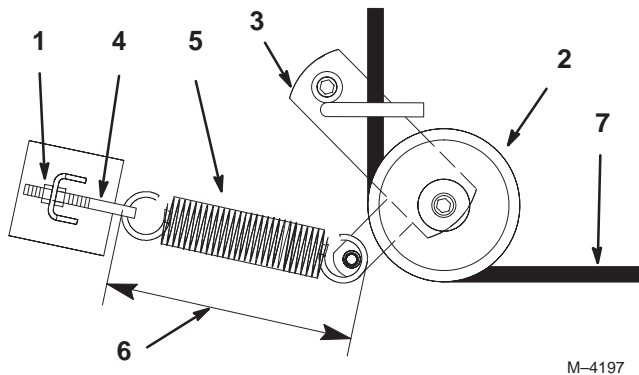

Figure 57
3. Loosen the outer nut on the spring eye bolt (Fig. 57).
5. Remove spring loaded idler pulley (Fig. 57).
6. Route the new belt through the idler arm (Fig. 57).
8. Tighten the outer nut on the spring eye bolt (Fig. 57).
Note: Check the spring length. The spring should measure 9-3/8 ± 1/8 inch (238 ± 3 mm) when installed. Adjust it if it does not (Fig. 57).